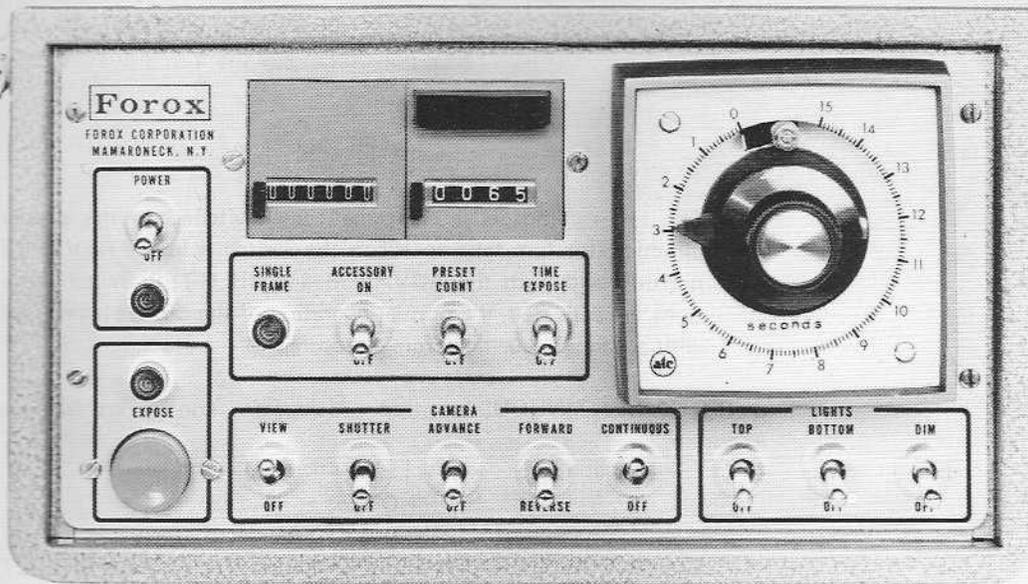

Figure 7. Console Controls and Indicators
**5.1 CONSOLE CONTROLS AND INDICATORS.** Figure 7 illustrates the console controls and indicators. Table I describes their function.